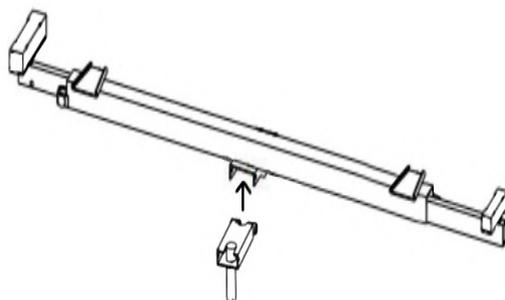

Figure 23
- Attach the mounting bracket to cradle as shown in Fig. 23.